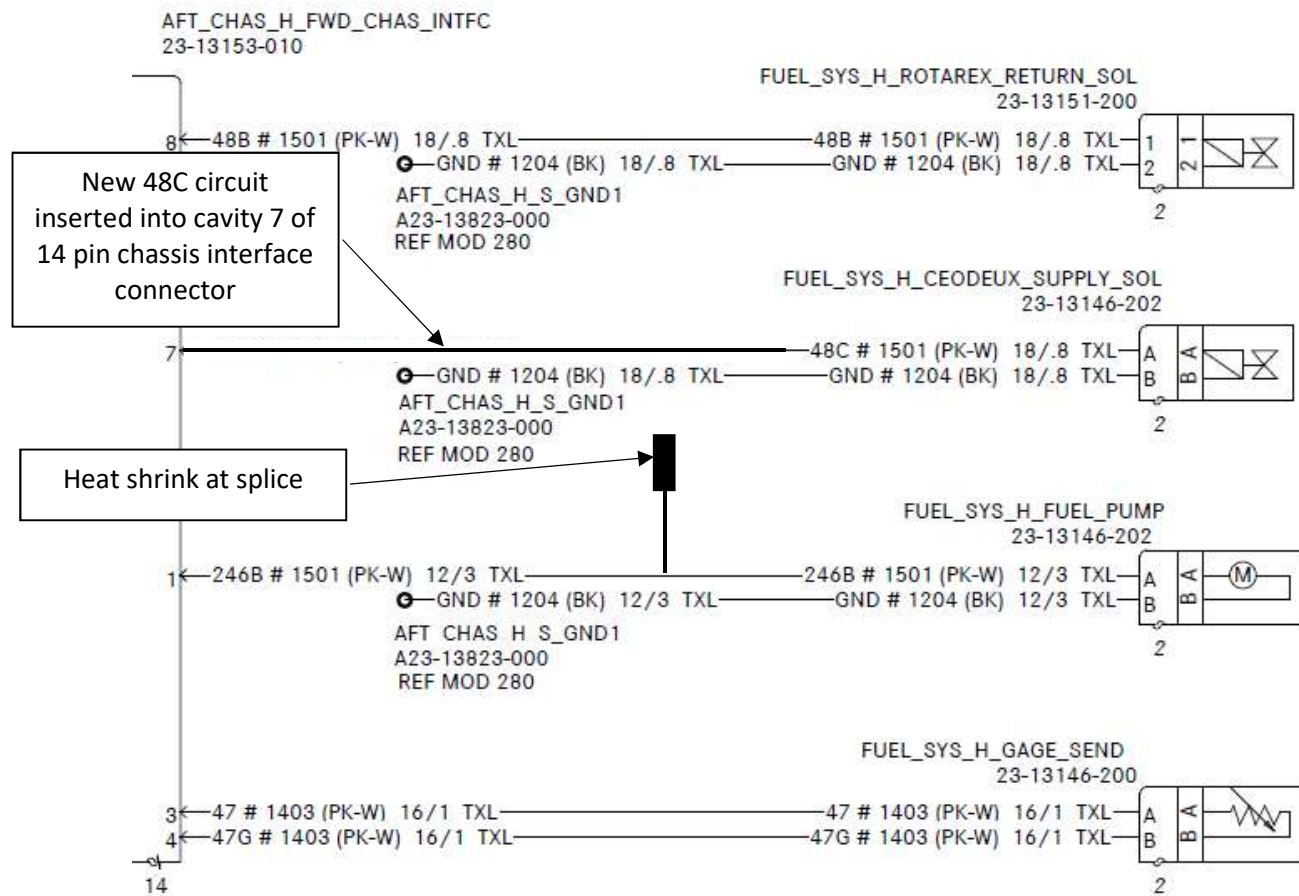

Figure 4
9. Terminate one end of the new wire with the male terminal. Remove plug from 14-pin connector cavity 7 and install male flat terminal. Route new circuit 48c with existing harness and inside conduit. Add splice to exposed blunt cut end from for solenoid connector. See Figure 4